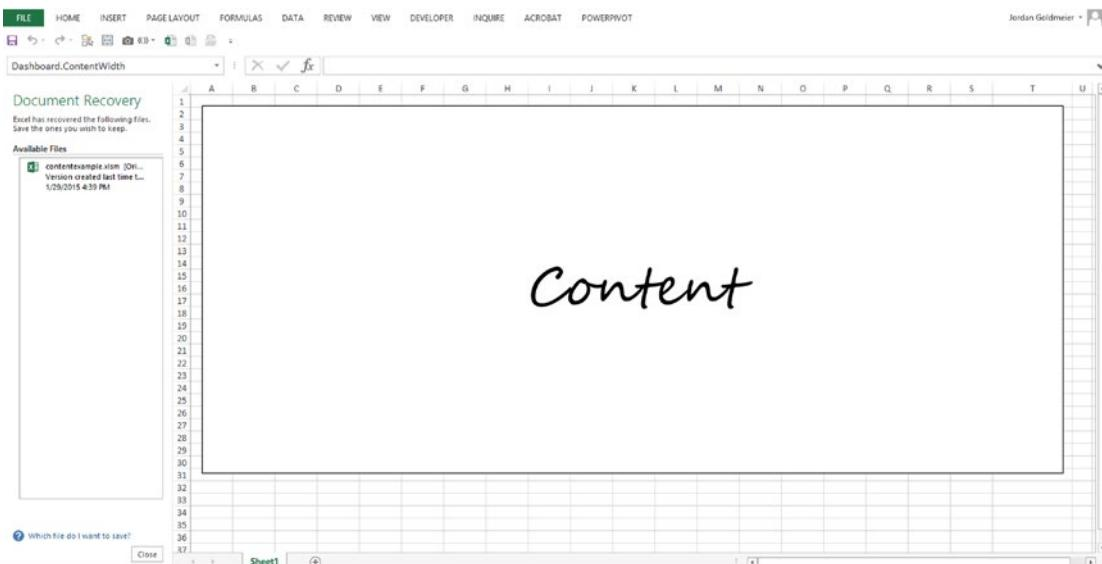

Figure 8-18. An example of the Document Recovery pane preventing this functionality to work as intended
Be forewarned, however, there is a small quirk with this code. If Excel is improperly shut down in a previous use, the Document Recovery pane will appear when you next open an Excel file. This will shrink the viewing area available to see the spreadsheet. Because of this, this zoom feature doesn't always work (Figure 8-18). Luckily, there are two easy workarounds: (1) instruct users to deal with the recovered documents and then exit the file and return once again or (2) include a button on the spreadsheet that says "zoom to fit" and that calls the same Worksheet_Open event.
In general, I use the additional space created when the ribbon is hidden. Figure 8-18 in the preceding sidebar provides an example of the ribbon being hidden with extra space provided. I generally hide the ribbon manually and instruct users in my included instructions to do the same. Code exists to automatically hide the ribbon when the worksheet is opened, but I'm not a fan of it. Such code often creates problems when other spreadsheets are open at the same because it affects all instances of the same Excel window.